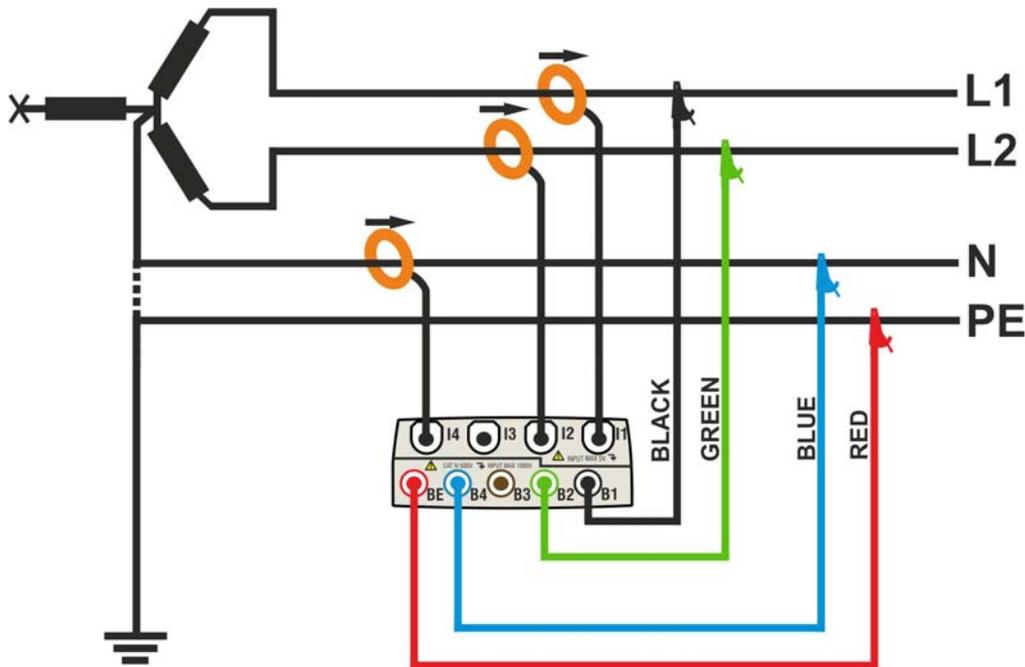

Fig. 172: Meter connection in a two phase 3-wire 3POY system
2. Connect voltage test leads on Phases L1, L2, N and PE cables considering the colours as shown in Fig. 172
3. Connect the transducer current clamps on Phase L1, L2, N cables as shown in Fig. 172 respecting the clamp's arrow direction indicating the current standard sequence from generator to load. **On Real Time Values' section screens (selecting a 3 wire system preliminarily) always verify the positive value of Active Power and the power factor relative to load which should be normally inductive** before starting a recording. Reverse the clamp by 180 degrees on cables in case of negative readings.